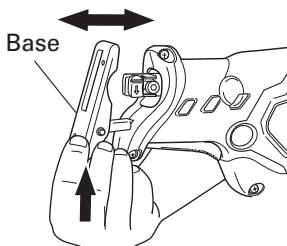

Fig. 13
- (2) Push up the base tip and jog the base back and forth. (Fig. 13)